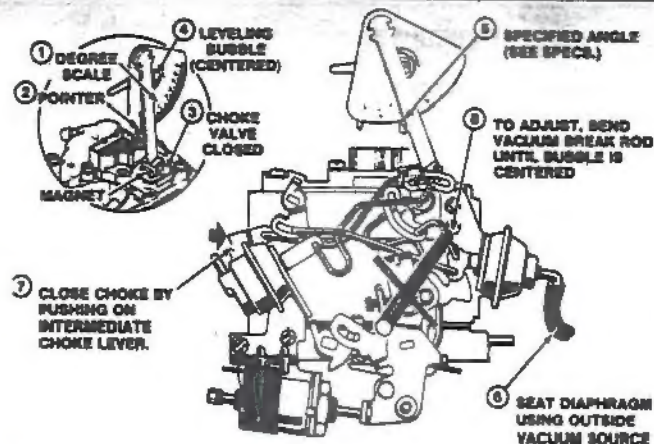

Fig. 12 Primary vacuum break adjustment. 1981 25E carburetor
1. Rotate degree scale until zero is opposite pointer, then with choke valve completely closed, place magnet on top of choke valve and rotate bubble until centered, Fig. 12.